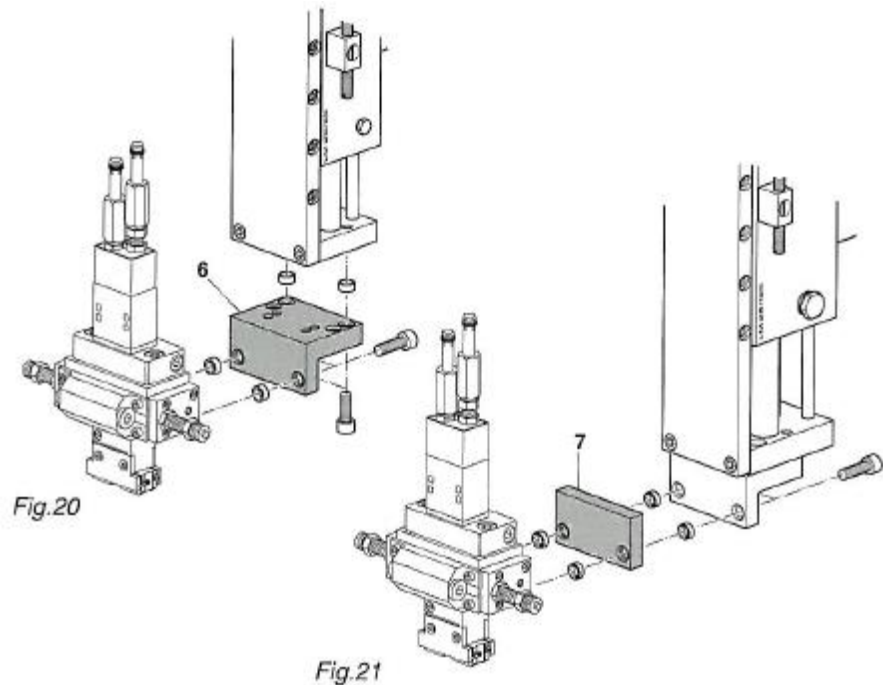
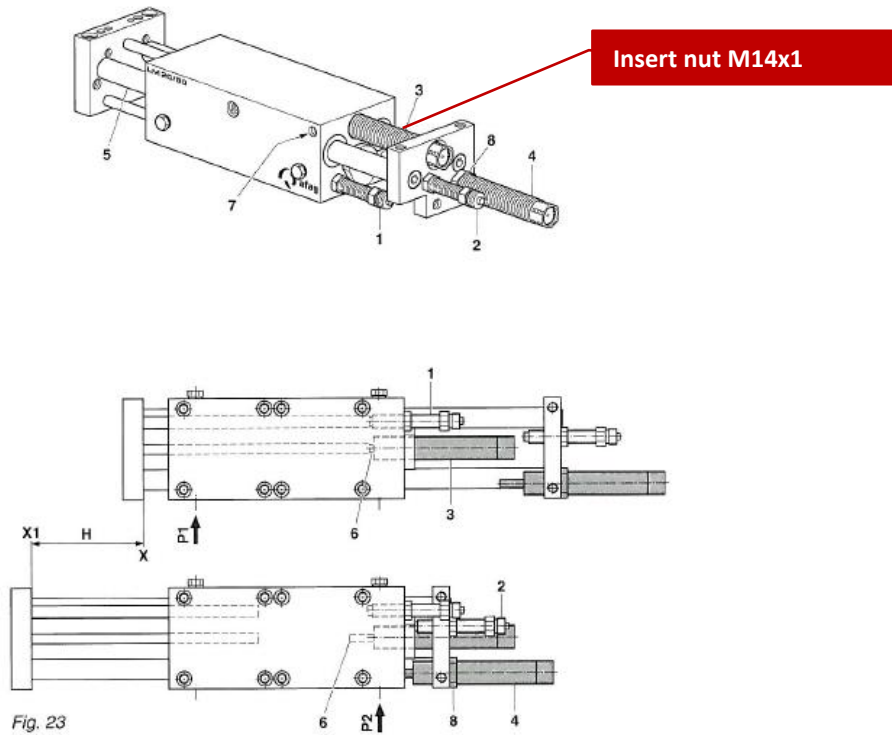

Fig. 17 Attachment of mounting bracket or intermediate plate (LM 25)
Fig. 20 Stroke adjustment with stop screws
### Mounting bracket (Fig. 20)
The linear modules can be supplied in various versions (Fig. 20).
- (A) Linear module LM 20 /25: The standard equipment includes two stop screws AS 08/40 (Fig. 17, 1) and two shock absorbers SD 14/16 (Fig. 20, 2) for end position adjustment.
- (B) Base plate LM 20/25: A stroke module can be realised with the help of the base plate (Fig. 17, 3). The base plate also serves as stabilisation and can be machined by the customer.
- (C) 3. Position LM 20/25: In combination with the LM 32 modules, a simple solution of a 3. Position (Fig. 17, 4) can be realized. This can be used in the entire stroke range of the linear module and the end position is damped and can be acknowledged with an initiator.
- (D) Intermediate plate LM 20: The intermediate plate (Fig. 17, 5) enables an LM 20 to be combined with another LM 20 module.